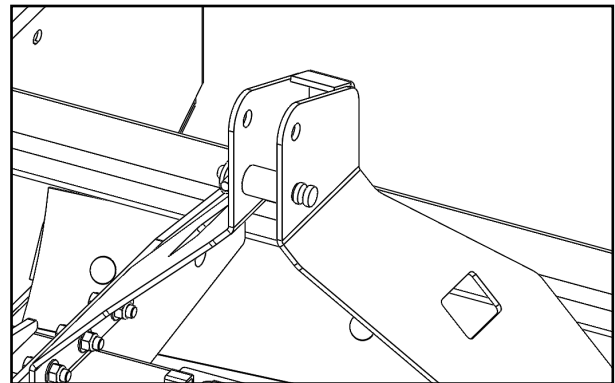

Fig. 10 (Upper link with top link pin and bushing)
10. See figure 10. Repeat the same process with the remaining top link and bushing.